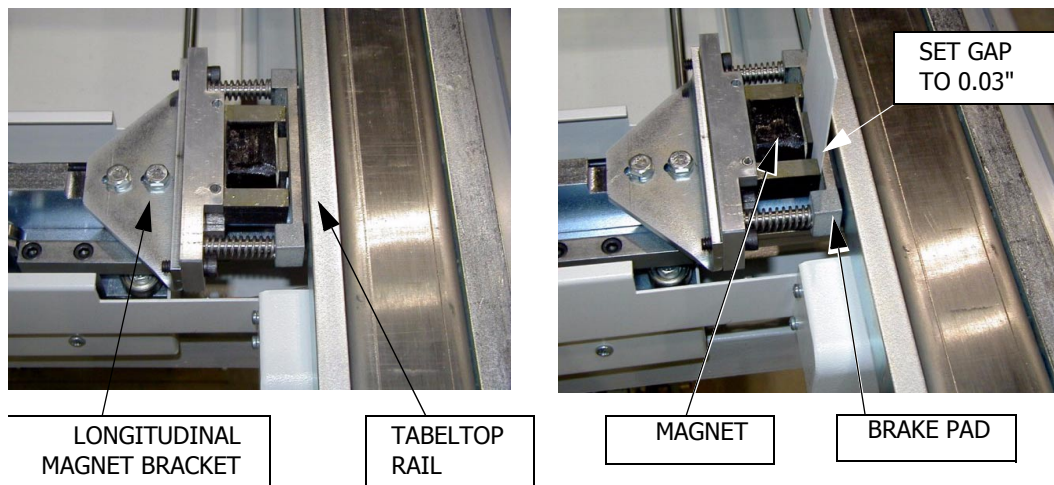

Figure 8. Adjusting the Longitudinal (Float) Magnets
4. Apply power to the table. While pressing the FLOAT foot pedal (or FLOAT push button switch), push in the two float top longitudinal electromagnets so locks are in "released" position (see Figure 8). This will provide sufficient clearance to slide the table top past the magnets, and will avoid magnet bracket adjustment required if the magnet brackets are loosened for table top installation. If table top cannot be installed in this way, the two (2) hex head bolts securing each Longitudinal Magnet Bracket must be loosened to permit tabletop installation.
- a. Place a 0.03" feeler gauge (approximate thickness of two business cards) between magnet and Brake Pad and re-tighten screws as shown in Figure 8).